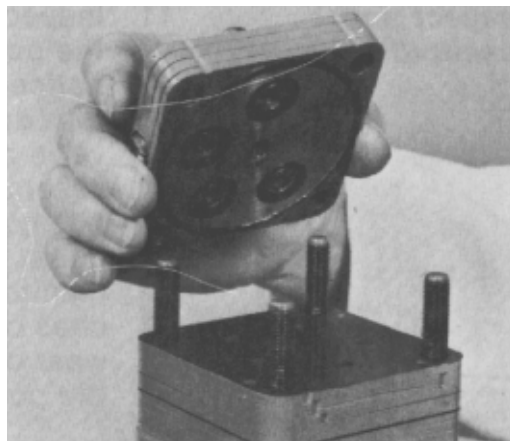

Figure 47
4. Grasp the port cover assembly (four plates bonded together) and lift it from the unit. Remove and discard the four o-rings and seal ring (Fig. 47).